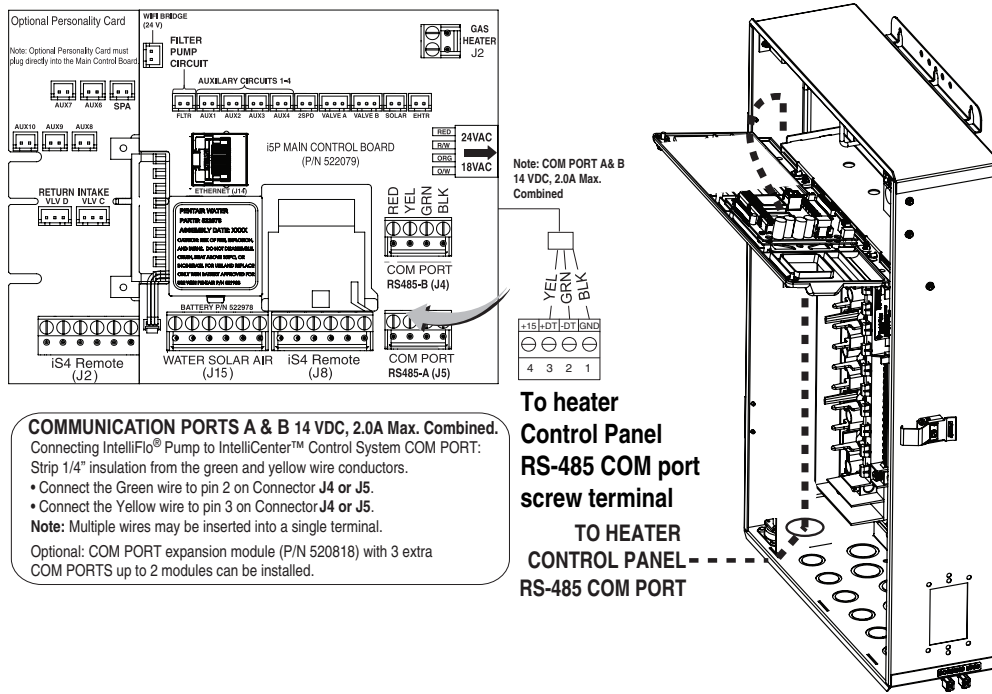

Figure 35.
4. Run the RS-485 cable from the heater's control board RS-485 COM port terminal connector to the Load Center or Power Center. See wiring connection **Figure 35** on next page.